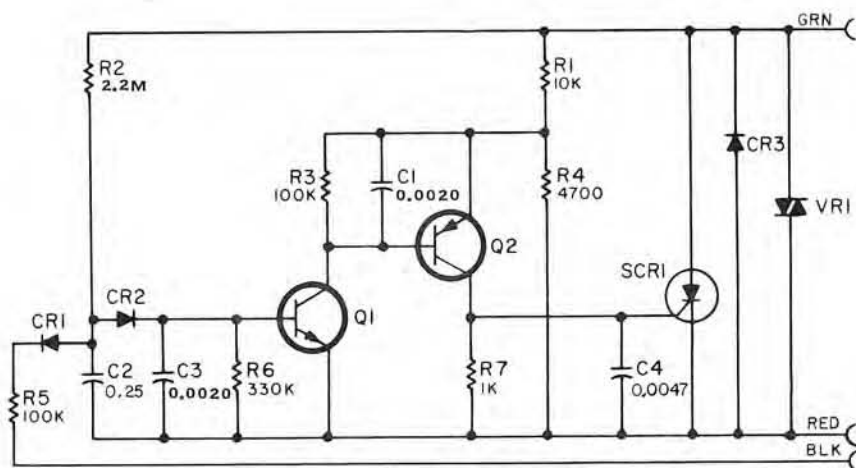

Figure 5. Hookswitch Dialing Inhibitor Circuit.
4.01 In the on-hook condition capacitor C2, (Figure 5) is charged from the line through a path from the GRN (+) lead through resistors R1 and R4, capacitor C2, diode CR1 and resistor R5 to the BLK (-) lead.